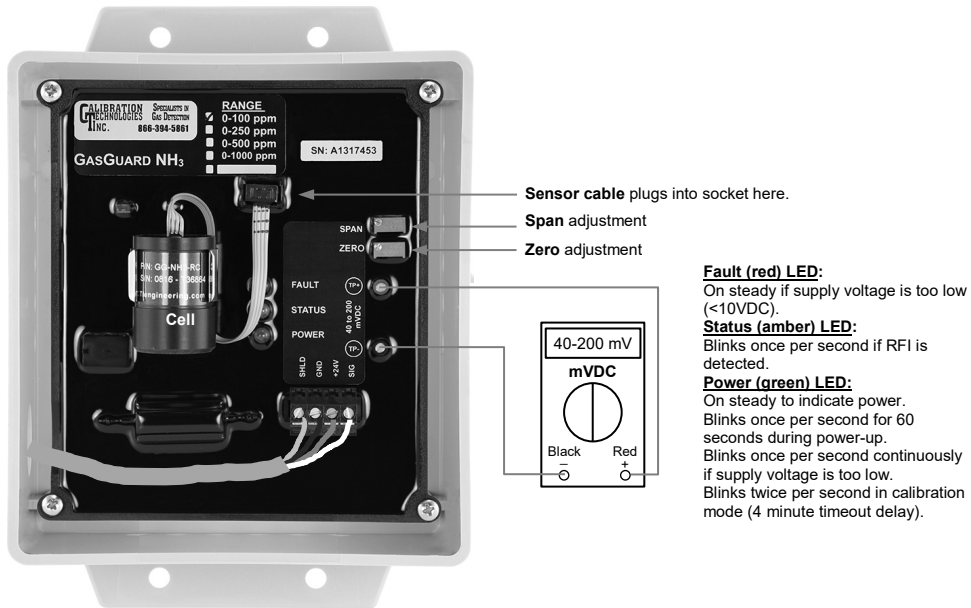

Figure 3: Sensor board components and zero/span adjustments
**LED functions** (see Figure 3 on page 8)
The GasGuard NH3 Sensor comes factory calibrated and should require only minimal adjustments after installation. There are two pots on the preamp that are used for calibration (see **Figure 3**).
- Adjust the Zero pot until the sensor outputs 40 mV from Test [-] to Test [+] (see **Figure 3**).
- Once the output signal has peaked (or 2 minutes maximum) adjust the Span pot until the correct output is achieved (see **Figure 3**). With full-scale span gas, the calculated span value is 200 mV. ( $(\text{span gas} / \text{sensor range} * 16 + 4)$  (mA output))